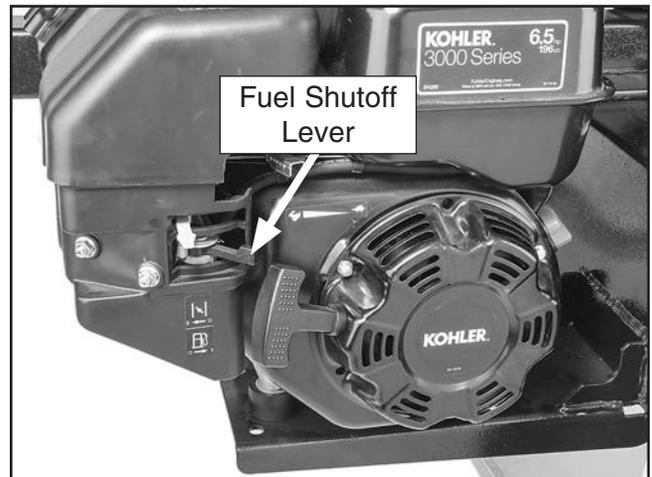

Figure 25. Fuel shutoff lever in ON position.
3. Move fuel shutoff lever to ON (I) position, as shown in **Figure 25**.